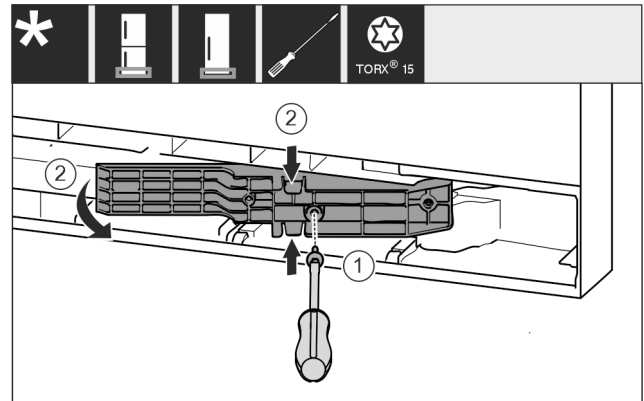

Fig. 16 \*
- Loosen the screws with a T15 screwdriver. Fig. 16 (1)\*
- Pull out the adapter. Fig. 16 (2)\*